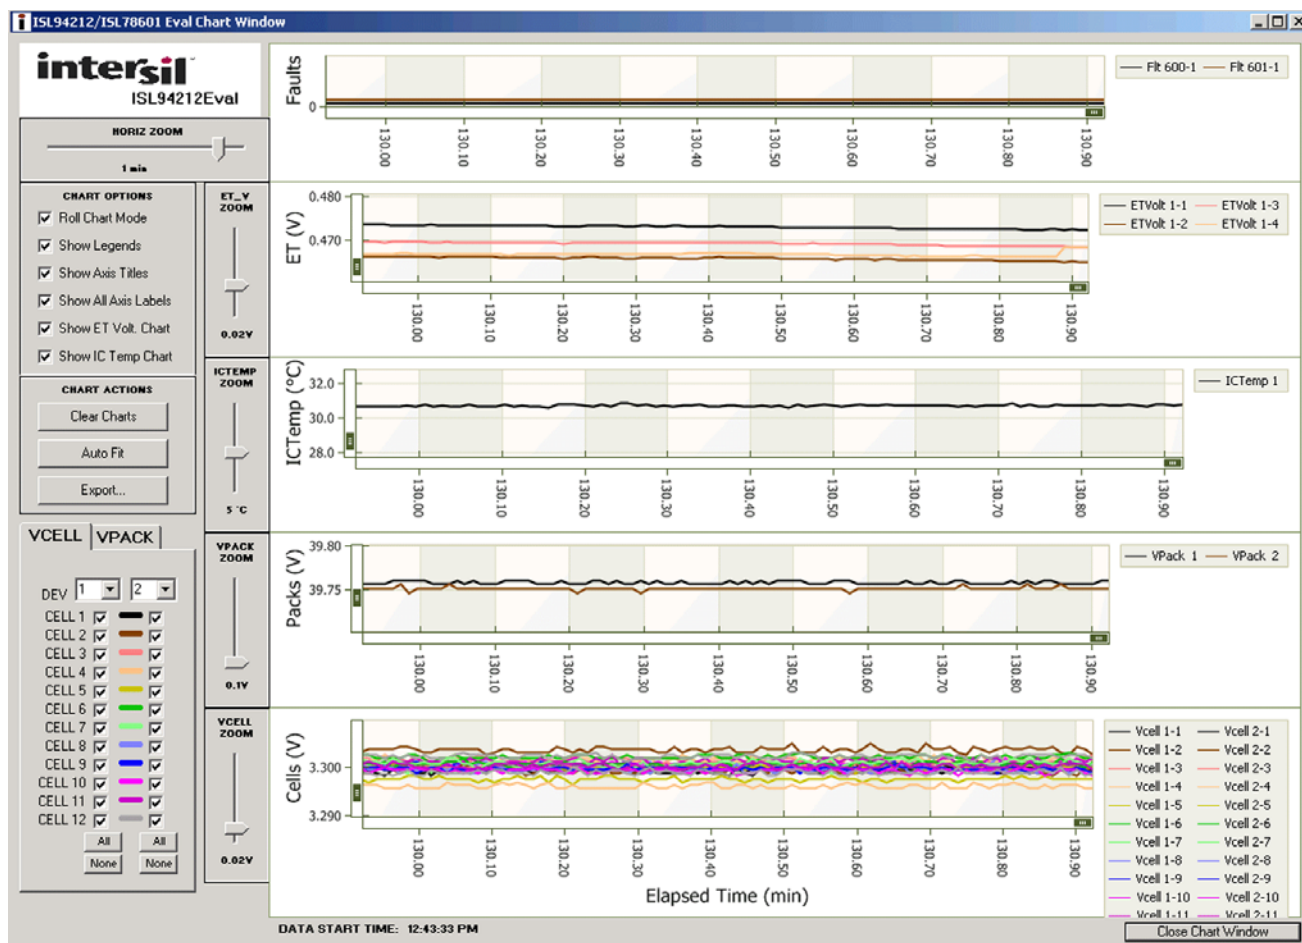

FIGURE 7. CHART WINDOW
- Step 8:** Use the “Show Chart” button to view various voltages and status in real time (See Figure 7).